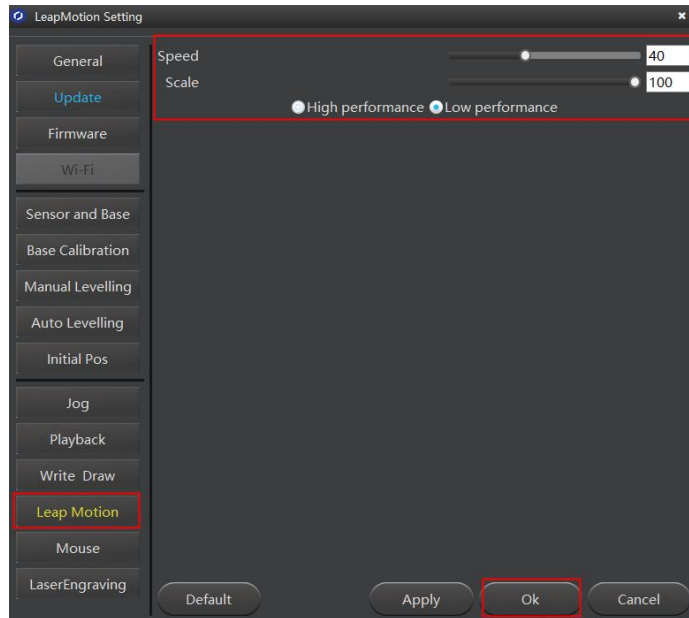

Figure 5.111 Set the parameters of the Leap Motion function
Step 4 Click **Leap Motion**, as shown in Figure 5.111. Set the parameters, as shown in Table 5.12, and click **OK**.